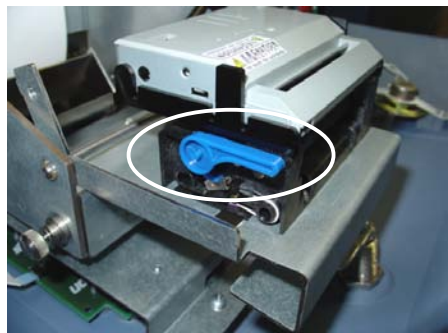

Figure 5-8. Blue tension lever (correct position).
10. Check the blue lever to ensure it's in the correct position as shown in Figure 5-8. If it is not in the position shown, move the lever (moves in 3 positions) to the correct position. Close the printer assembly and perform step 7 again.